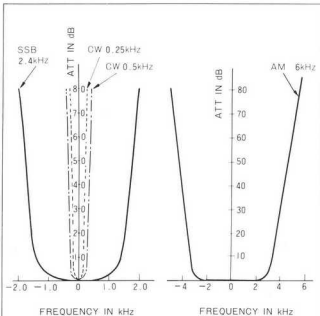

Fig. 4.2 IF Filters: Selectivity Characteristics
4.5 SELECTIVITY SWITCH (FIG. 4-2)